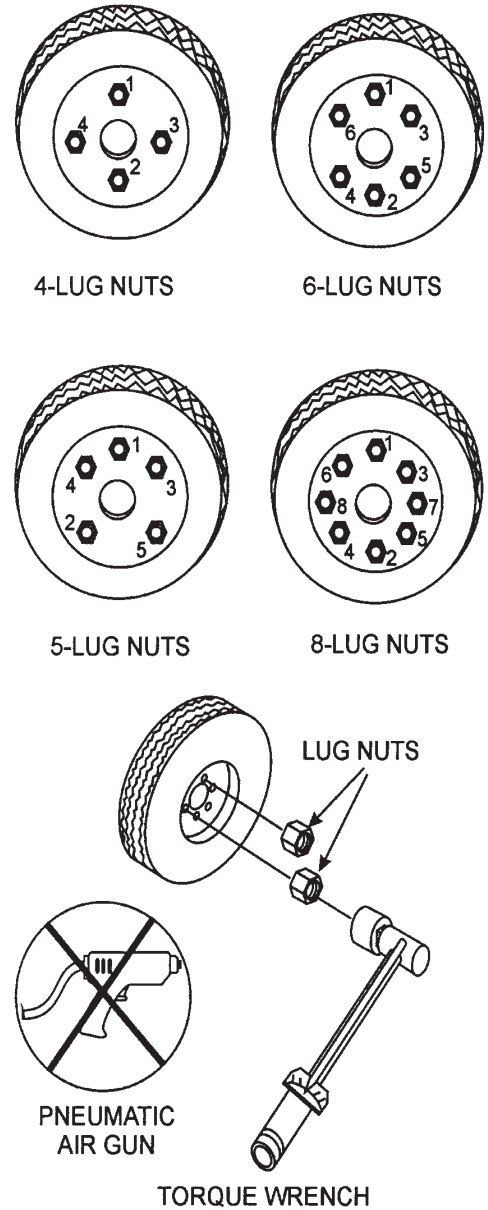

Figure 58. Wheel Lug Nuts Tightening Sequence
12. **Lug Nuts** — Used to secure the wheel to the wheel hub. Always use a torque wrench to tighten down the lug nuts. See Table 16 and Figure 58 for lug nut tightening and sequence.
2. Torque all lug nuts in sequence (see Figure 58). **DO NOT** torque the wheel lug nuts all the way down. Tighten each lug nut in 3 separate passes as defined by Table 16.